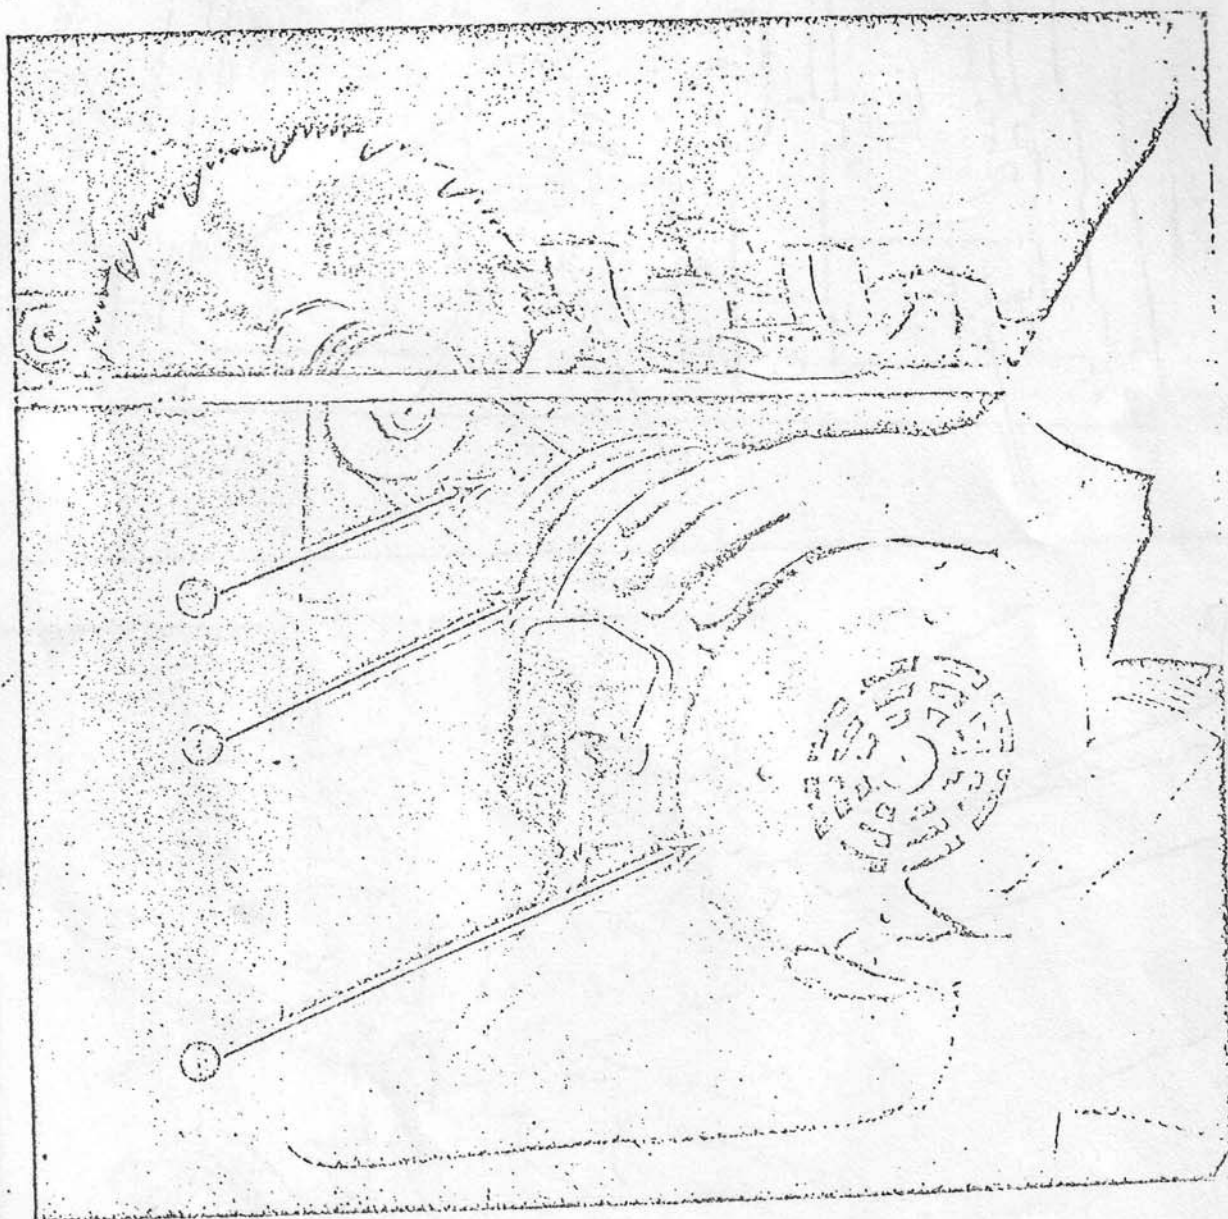

FIGURE 1
- OR & DRIVE:** Saw is powered by a C flange motor, bolted to the motor mount base with four cap screws (No. 1, fig. 1). The motor mount base is mounted on to saw arm flange and pivots on the saw arm shaft. Saw arbor is driven with three "A" section V belts. Belts are adjusted by loosening the two cap screws (No. 2, fig. 1) on either side of motor mount and turning the motor (No. 3, fig. 1) to the right to loosen or to the left to tighten. If belts are operated without proper tension, excessive heating and wear will result, shortening belt life.